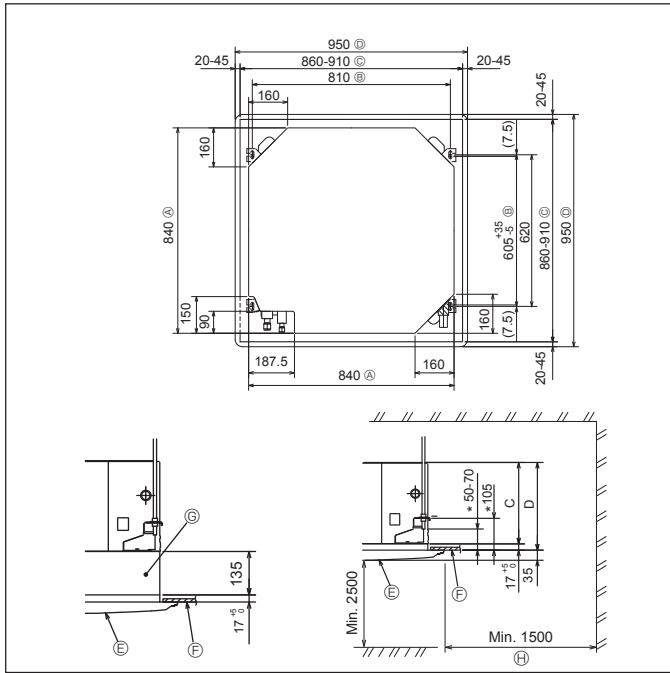

Fig. 2-2
2.2. Ceiling openings and suspension bolt installation locations (Fig. 2-2)
- * The dimensions of ceiling opening can be regulated within the range shown in Fig. 2-2; so center the main unit against the opening of ceiling, ensuring that the respective opposite sides on all sides of the clearance between them becomes identical.
- (A) Outer side of main unit
- (B) Bolt pitch
- (C) Ceiling opening
- (D) Outer side of Grille
- (E) Grille
- (F) Ceiling
- (G) Multi function casement (option)